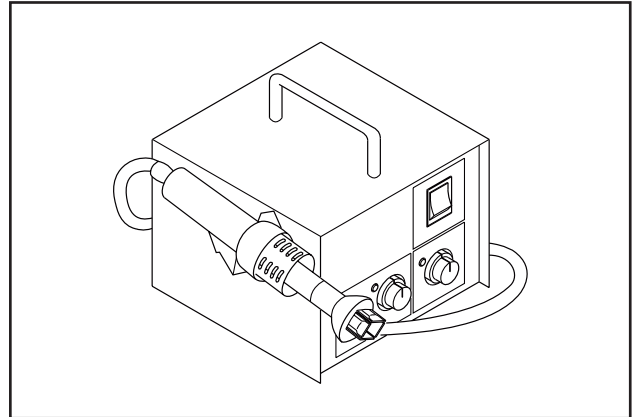

Fig.2-1
- (1) Prepare the hot-air flat pack-IC desoldering machine, then apply hot air to the Flat Pack-IC (about 5 to 6 seconds). (Fig.2-1)